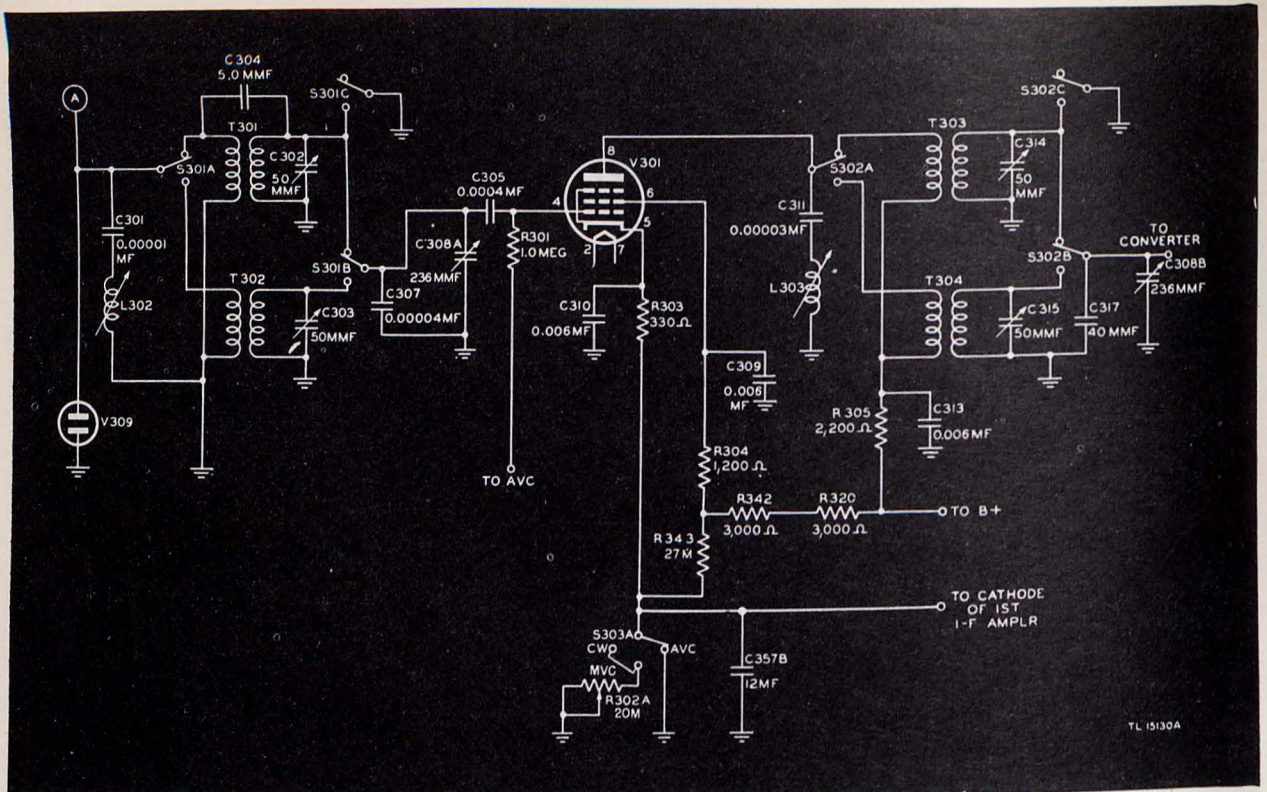

Figure 37. Radio Receiver BC-652-A, functional diagram of r-f amplifier stage.
77. RADIO-FREQUENCY AMPLIFIER (fig. 37).
c. The signal is fed through switch S301A to either transformer T301 or T302, depending upon the position of BAND CHANGE switch S301A. When the switch is in the low-frequency (BAND 1) position, as shown in figure 37, transformer T301 is connected in the circuit. The signal is inductively coupled to the secondary winding of transformer T301 and fed through switch S301B and coupling capacitor C305 to the grid (pin 4) of the r-f amplifier tube. Capacitor C304 acts as additional coupling between the primary and secondary windings of transformer T301. On the BAND 2 position, switch S301C shorts out the secondary of transformer T301. Variable capacitor C308A, one section of the three-gang main tuning capacitor,
a. The output of the r-f unit is fed to the signal grid of the hexode section of the converter tube through coupling capacitor C316. Capacitor C308B (fig. 37) is the tuning capacitor for this stage. Resistor R306 is the grid-return resistor for the hexode section of the tube. Grid bias for the tube is developed across cathode resistor R307 and filtered by capacitor C318.